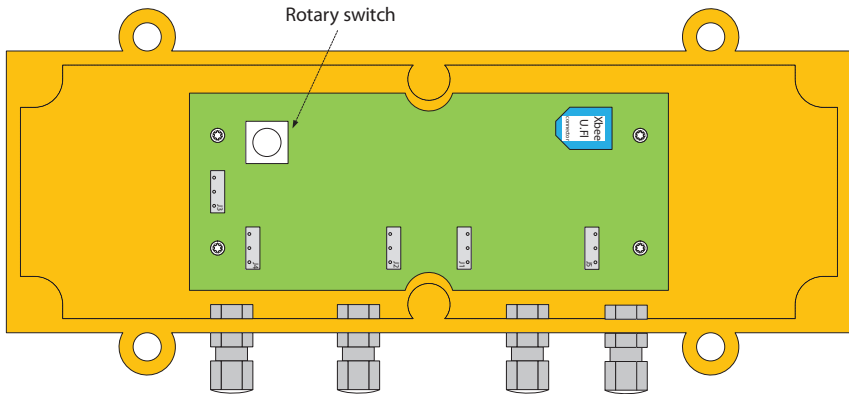

Figure 3. Rotary switch
h) Set the Light Group by adjusting the Rotary Switch A on the PCB (please refer to Figure 3)